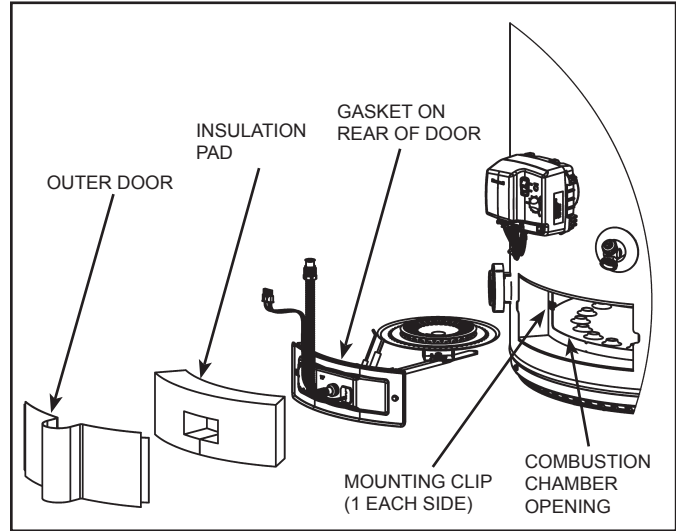
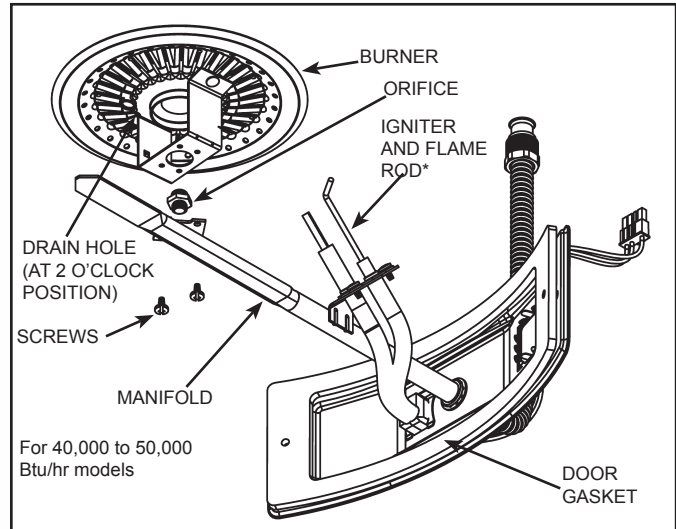
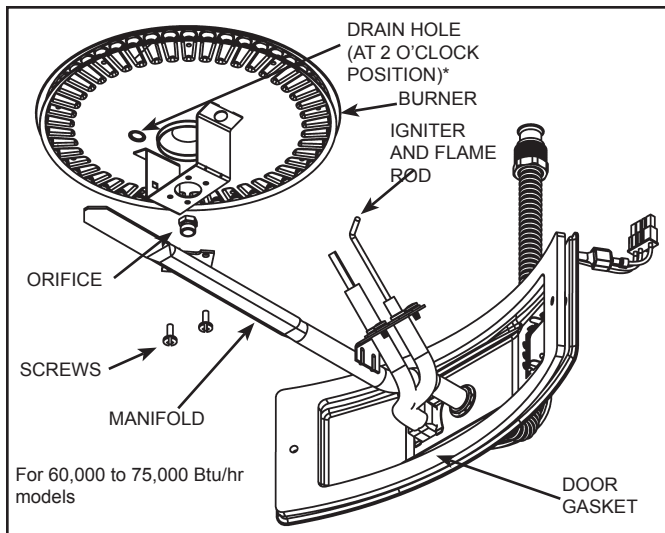

Figure 17. Burner Chamber Compartment Doors
Figure 18. Burner/Igniter Assemblies for 40,000 to 50,000 Btu Models
Figure 19. Burner and Igniter Assemblies for 60,000 to 75,000 Btu Models
9. Remove inner door/manifold/burner assembly by grasping the manifold, rotating it to the left to clear the igniter and flame sensor and pulling back. Care should be taken when inner door and burner assembly passes through jacket opening that it does not damage any of the electrical wiring. See *Figure 17* (page 14).
1. Burner may be hot. Wait until burner has cooled off. After noting the position of the condensation drain hole on the top of the burner, turn the inner door/manifold/burner assembly upside down. Using a Phillips head screwdriver, remove and retain the 2 screws attaching the burner to the manifold pipe. See *Figure 18* (page 8) and *Figure 19* (page 15).
Care **MUST** be taken to ensure the burner is installed correctly on the inner door/manifold assembly. Position the new burner upside down with the orientation of the burner's condensation drain as shown in illustration. See *Figure 18* (page 8) and *Figure 19* (page 15).
1. Align the screw holes on the inner door/manifold assembly. Using the two screws removed in step 1 of Removing Burner, install the new burner to the inner door/ manifold assembly (rotate the assembly to visually check the top portion of the burner assembly and confirm the orientation of the condensation drain hole. See *Figure 18* (page 8) and the note that follows it.
9. Remove inner door/manifold/burner assembly by grasping the manifold, rotating it to the left to clear the igniter and flame sensor and pulling back. Care should be taken when inner door and burner assembly passes through jacket opening that it does not damage any of the electrical wiring. See **Figure 17** (page 14).
1. Burner may be hot. Wait until burner has cooled off. After noting the position of the condensation drain hole on the top of the burner, turn the inner door/manifold/burner assembly upside-down. Using a Phillips head screwdriver, remove and retain the 2 screws attaching the burner to the manifold pipe. See **Figure 18** (page 8) and **Figure 19** (page 15).
**Note:** The burner orifices have different threads dependent upon the gas type. Orifices for natural gas have right-hand threads, orifices for LP have left-hand threads. See **Figure 18** (page 8) and **Figure 19** (page 15).
**Note:** The burner orifices have different threads dependent upon the gas type. right-handed threads for natural gas (turn clockwise to install) and left-handed threads for propane gas (turn counter-clockwise to install). See **Figure 18** (page 8) and **Figure 19** (page 15).
- Align the screw holes on the inner door/manifold assembly. Using the two screws removed in step 1 above, install the new burner to the inner door/manifold assembly (rotate the assembly to visually check the top portion of the burner assembly and confirm the orientation of the condensation drain hole as shown in the illustration. See **Figure 18** (page 8) and **Figure 19** (page 15).
1. Locate the gasket that is on the rear of the burner door assembly. See *Figure 17* (page 14), *Figure 18* (page 8), and *Figure 19* (page 15).
3. Using the 3/4" scraper, clean around the combustion chamber opening to ensure no old gasket material is stuck on the combustion chamber. See *Figure 17* (page 14). Use the flashlight to clearly illuminate this area. Take care not to damage the mounting clips located on each side of the opening.